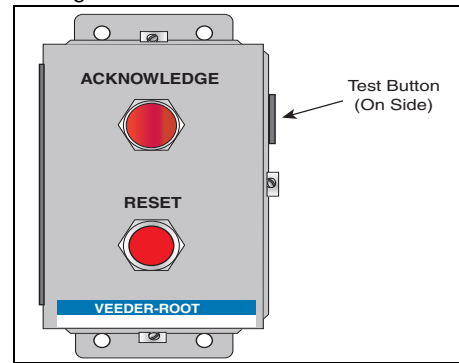

Figure 3. Test Switch Location On Ack Switch Box
2. Depress and hold in the TEST Button on the right side of the Ack Switch box (Figure 3).